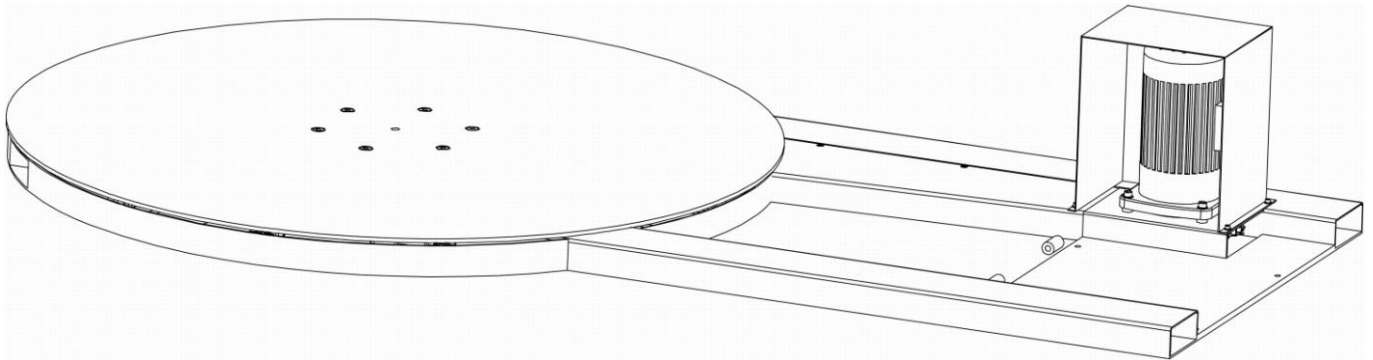

Fig. 4-1
4. Space required for use and maintenance(Fig 4-1)